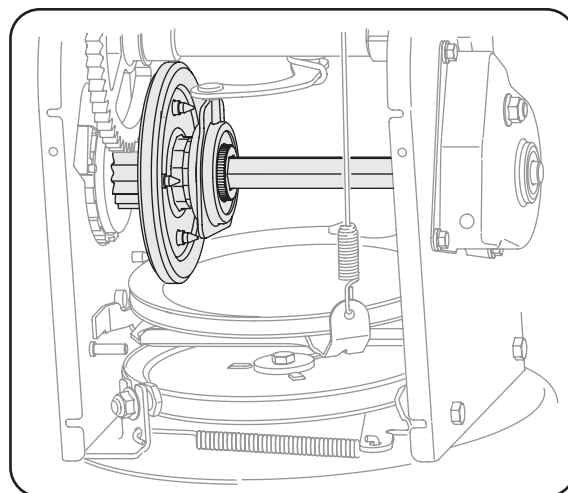

Figure 6-1
3. Apply a light coating of an all-weather multi-purpose oil to the hex shaft. See Figure 6-1.